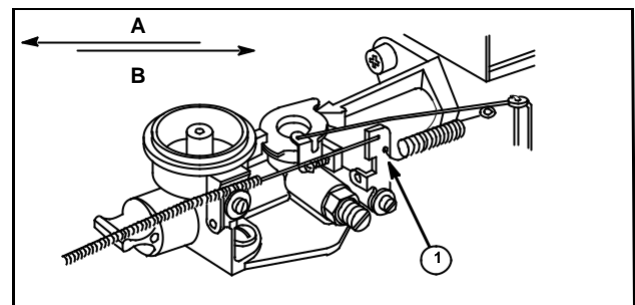

Fig. 17
Hook spring in this hole (1), Fig. 17.